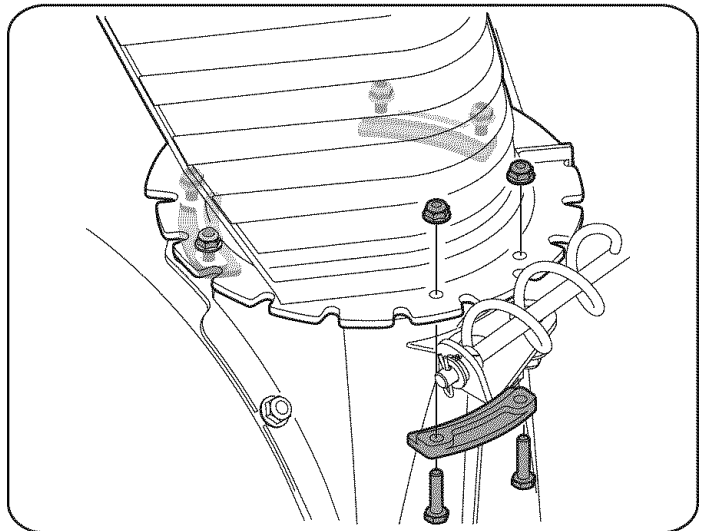

Figure 5
- Secure flange keeper removed earlier with lock nuts and screws. Tighten down nuts securing the other two flange keepers. See Figure 5.